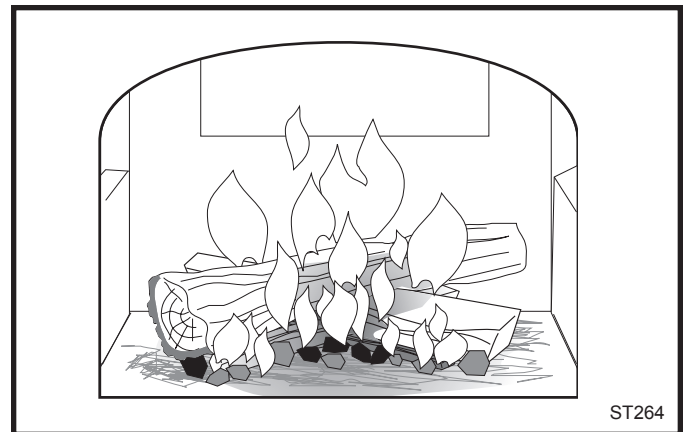

Fig. 40 Add larger pieces of wood as the fire begins to burn well.
4. If your Intrepid II has been broken-in previously using Steps 1-3, continue to build the fire gradually. Add larger wood with a diameter of 3-4" (76-102 mm). (Fig. 40)